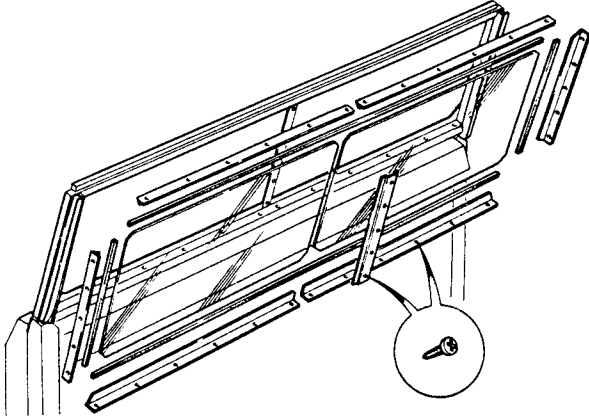

Fig M3.14
- (5) Refer to Fig M3.14. Remove the screws securing the glass retaining angle strips.
- (6) Carefully ease the glass clear of the screen.
- (7) Remove all traces of sealant from the windscreen frame and glass retaining strips.